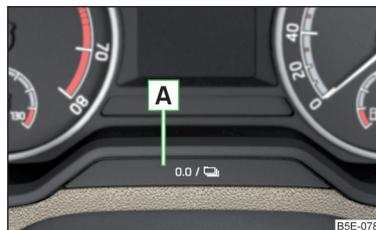

Fig. 30
- ▶ Press and hold the button **A** » Fig. 30 until the **Service** menu item is shown in the display.